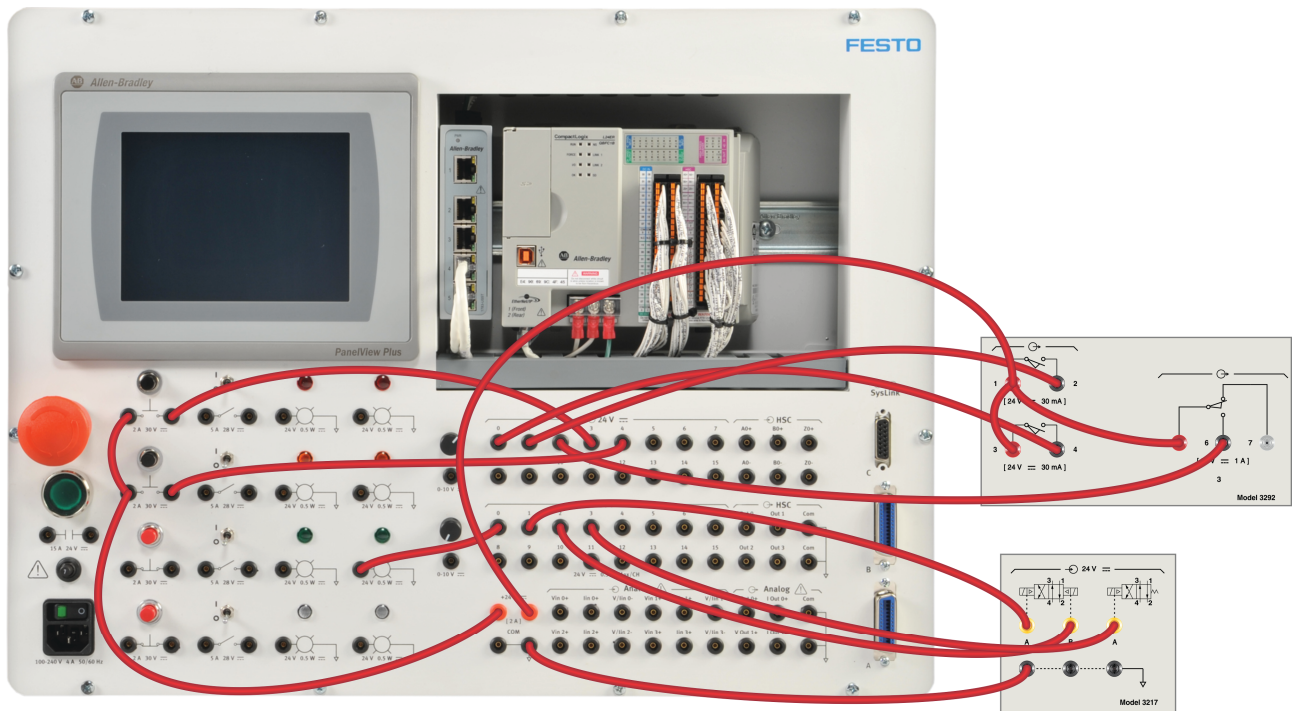
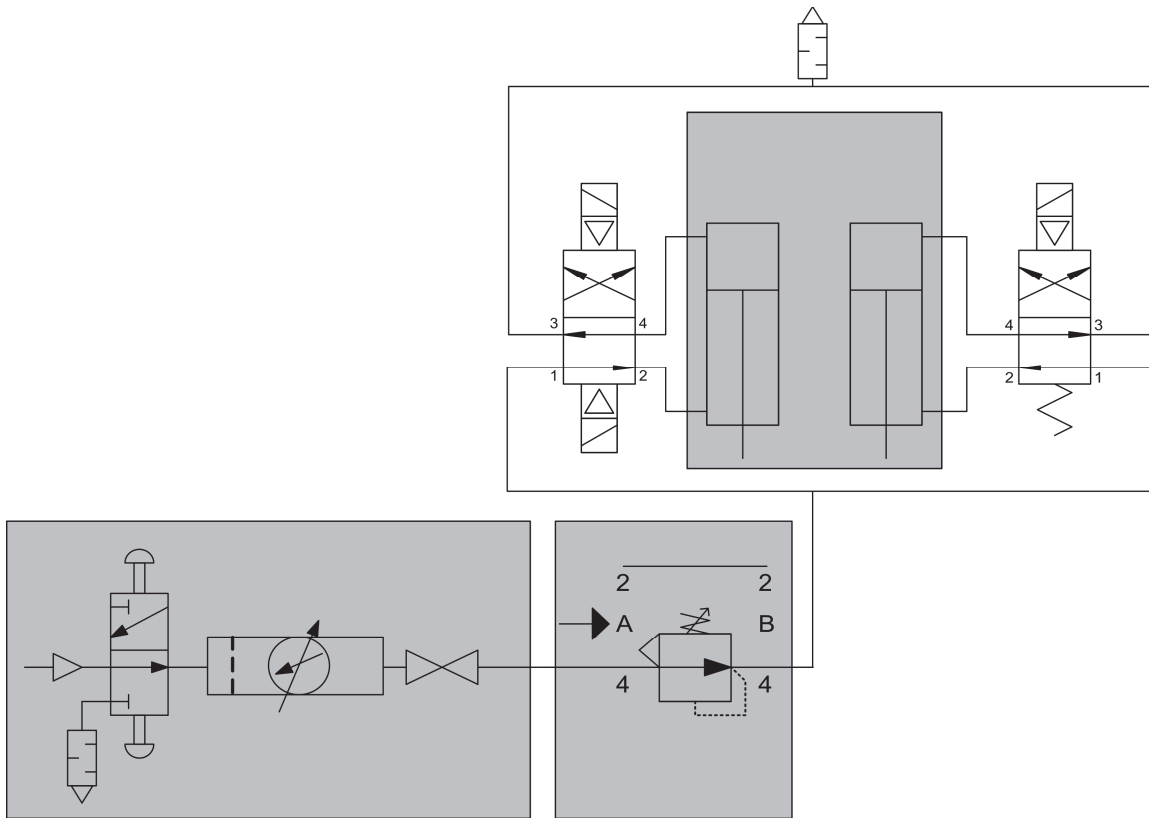

Figure 89. Clamp and stamp setup (real application).
Figure 90. Pneumatic connections.
1. Connect the equipment as shown in Figure 89 and Figure 90. The tags used in this exercise are shown in Figure 91. Adjust the air pressure between 200 kPa and 275 kPa (30 psi and 40 psi).